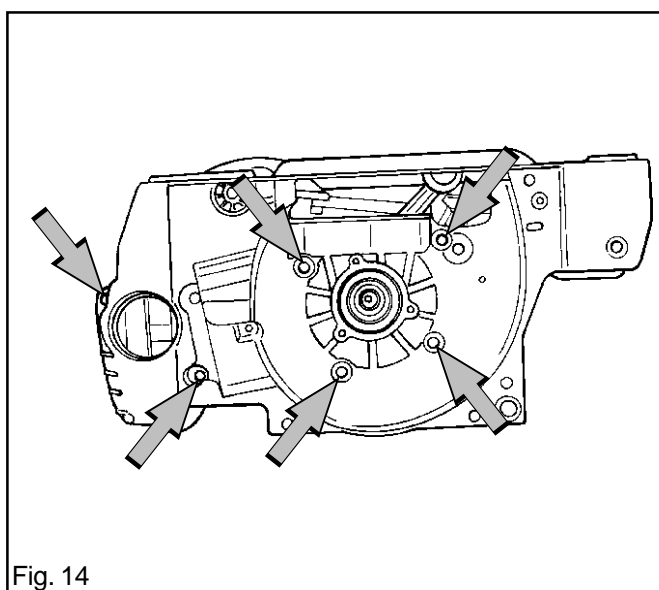

Fig. 14
6. Fit the six bolts. Tighten them alternately. Tighten them finally to 8 Nm. See fig. 14.